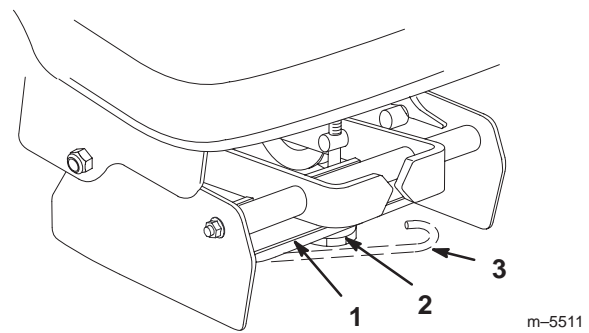

Figure 23
9. Release the belt tension release arm on the pulley box to release the tension on the drive belt (Fig. 23).